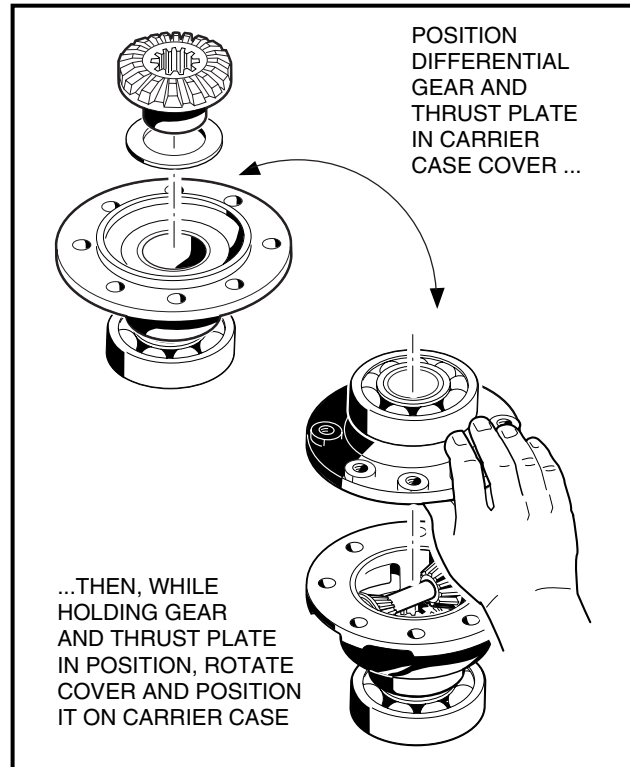

FIGURE 10-65
5. Install the thrust plate (86) and idler gear (90) into the carrier case cover (87) (**Figure 10-6, Page 39**) as shown (**Figure 10-65**). Then, while holding the thrust plate and idler gear in place, position the carrier case cover on the carrier case as shown (**Figure 10-65**).